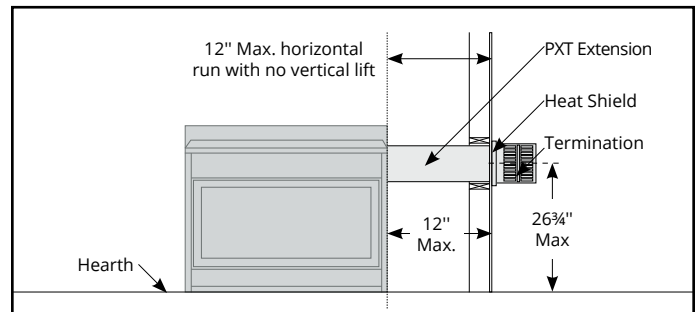

Figure 9.c Straight run, Side Vented, wall mounted termination for L38DF-ST*, Figure 13.
- Fireplace must be converted to Rear Vent configuration prior to running vent, see Figure 9 and 9a.
Figure 9.c Side Vented, wall mounted Multi-elbow termination installation. Installation for L38DF*-ST must have a minimum vertical rise of 42". The vent run must comply with the Venting Graph for Rear vent, wall mounted terminations, Figure 13.
Figure 9.c Side Vented, wall mounted Multi-elbow termination installation. Installation for L42DF*-ST must have a minimum vertical rise of 54". The vent run must comply with the Venting Graph for Side vent, wall mounted terminations, Figure 13.